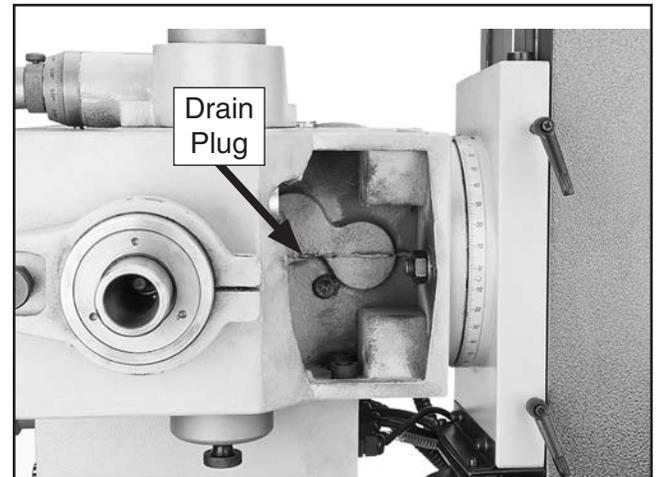

Figure 44. Headstock drain plug (headstock tilted 90° for clarity).
5. Remove the drain plug (see **Figure 44**) from underneath the headstock. Allow the oil to completely drain into the pan.